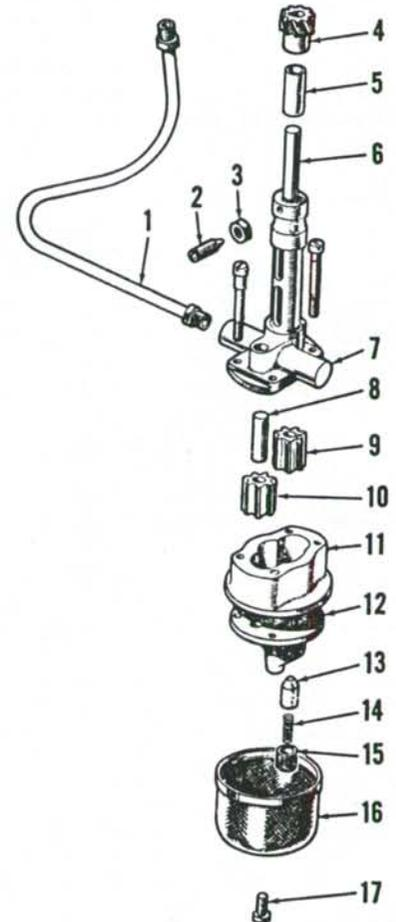

Fig. 99—Exploded view of oil pump used on four-cylinder engine showing component parts and their relative positions.
**122. OVERHAUL.** Disassembly of oil pump is obvious after examination of unit and reference to Fig. 99. Use a suitable puller to remove spiral gear (4) and driven gear (9) from drive shaft (6). Note number of turns required to remove relief valve adjusting screw (15) so it can be reinstalled to original setting.
To reassemble, press idler shaft (8—Fig. 99) into bracket (7) until seated. Install shaft (6) and gears (9 and 10). Press spiral gear (4) onto shaft (6) leaving 0.25 mm (0.010 inch) end play. Use a feeler gage between face of spiral gear shoulder and top edge of bracket (7) to measure end play. Install bolts and pump body (11). Using a feeler gage inserted between mating gear teeth, measure backlash. Backlash should be 0.51-0.66 mm (0.020-0.026 inch). Measure gear side clearance using a feeler gage inserted between gear body (11) and outer edge of pump gears. Side clearance should be 0.025-0.050 mm (0.001-0.002 inch). Place "Plastigage" on face of pump gears as shown in Fig. 98. Install pump cover (12) and tighten bolts to 12-15 N·m (9-11 ft.-lbs.) torque. Remove cover (12) and check clearance. Clearance should be 0.025-0.089 mm (0.001-0.0035 inch). Reinstall cover and tighten bolts to 12-15 N·m (9-11 ft.-lbs.) torque.
Install relief valve plunger (13—Fig. 99), spring (14) and adjusting screw (15). Turn adjusting screw in same number of turns as noted during disassembly. One full turn of adjusting screw will result in 41 kPa (6 psi) change in pressure. Top of screw (15) must be below flange for pickup screen mounting bolt.